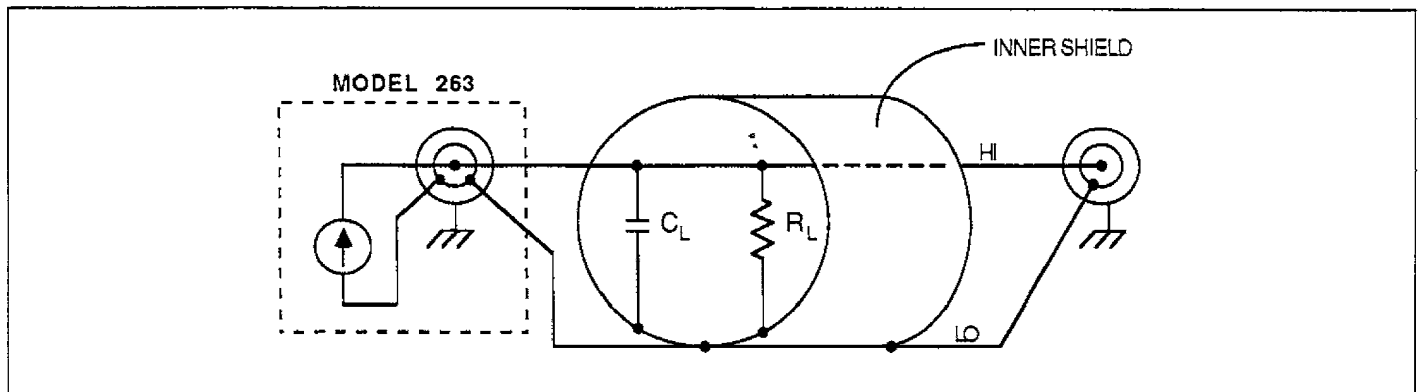

Figure 3-8. Unguarded Circuit
In general, the purpose of guarding is to eliminate leakage resistance and capacitance that exist between output high and output low. In the unguarded configuration (see Figure 3-8), leakage occurs between the center conductor (HI) and the inner shield (LO) of the output triax cable. This leakage (through  $R_L$  and  $C_L$ ) may be enough to adversely affect the output level and response time of the source.